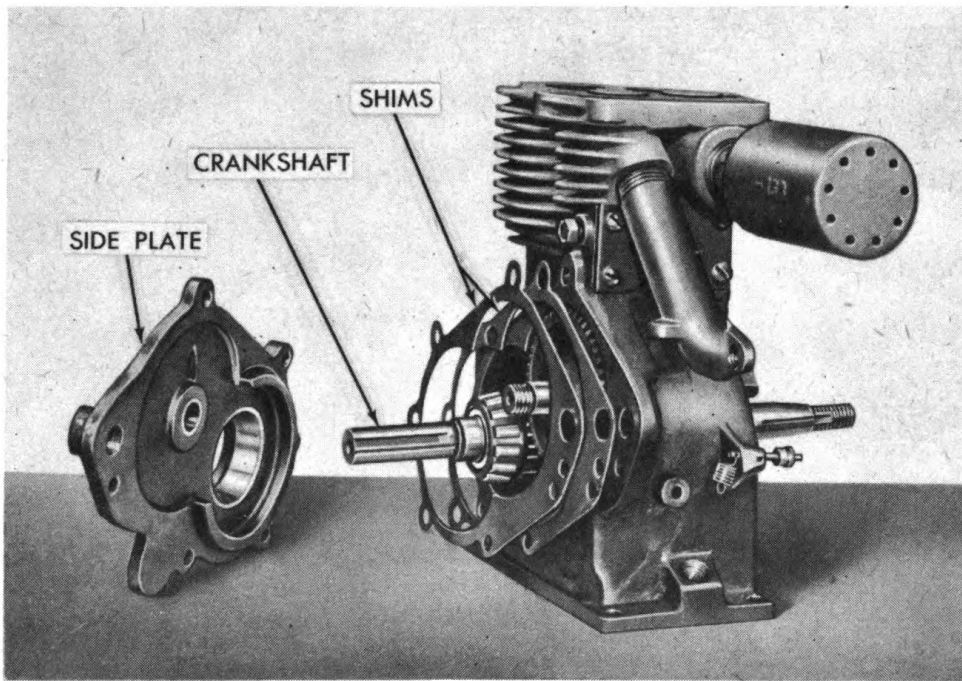

Figure 32—Shim Installation on Side Plate for Main Bearing Clearance
(1) Position the crankshaft in the bloc. Place shims between bloc and side plate as shown in figure 32. Install side plate and attaching screws. Tighten screws alternately a little at a time, and at the same time turn crankshaft to check for binding in bearings. Add or remove shims to give crankshaft .003 and .005 inch end play. After adjustment has been completed remove side plate, shims, and crankshaft, being sure the same shims are used in final assembly.
(2) Saturate a new felt washer with engine oil; then place felt in oil seal retainer. Using a suitable driver install the oil seal retainer, magneto side, to depth of scribe mark previously made on retainer.